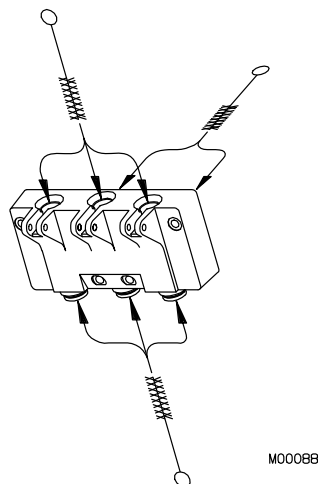

Figure 8-6 Clean the head ports
b. The head plunger openings, center plunger ports, breaker bar cavities, o-ring grooves, dispense nozzle mounting rings and mix ports (figure 8-6).